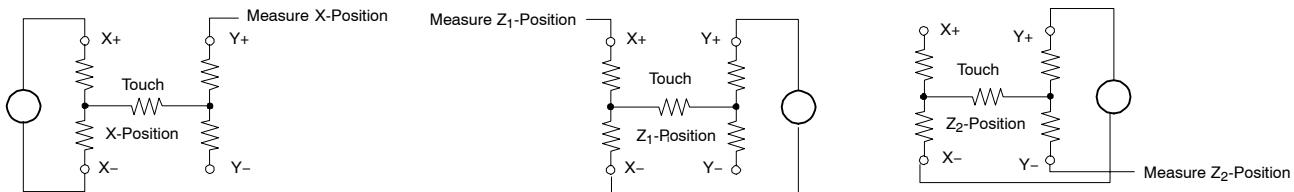

Figure 16. Pressure Measurement
Measuring touch pressure (Z) can also be done with the TSC2100. To determine pen or finger touch, the pressure of the touch needs to be determined. Generally, it is not necessary to have very high performance for this function; therefore, the 8-bit resolution mode is recommended (however, calculations are shown with the 12-bit resolution mode). There are several different ways of performing this measurement. The TSC2100 supports two methods. The first method requires knowing the X-plate resistance, measurement of the X-Position, and two additional cross panel measurements (Z₂ and Z₁) of the touch screen (see Figure 16). Using equation 1 calculates the touch resistance: